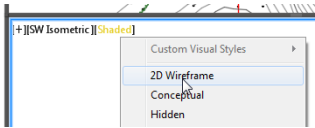

FIGURE 4.4 Changing the visual style to 2D Wireframe in the lower-right viewport
- 8. In the lower-right viewport, click Shaded and select 2D Wireframe, as shown in Figure 4.4. The appearance of the surface changes to show the TIN lines.